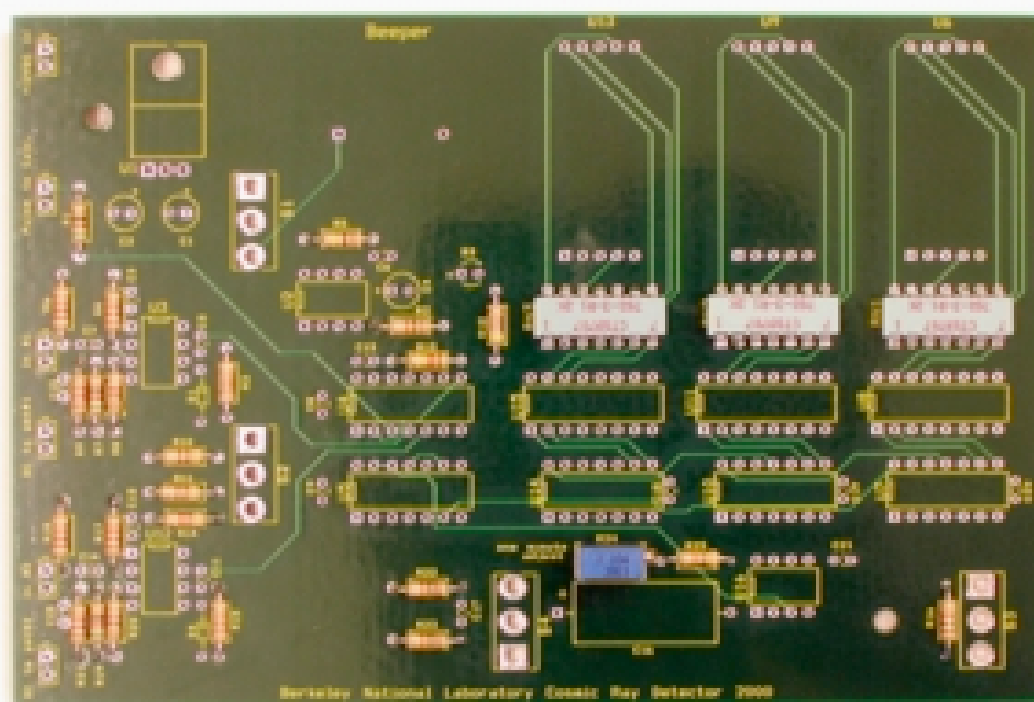

Figure 20: Circuit board with all resistors in place.
- 6. Repeat the above steps for other components.** See Figure 20 for resistors.